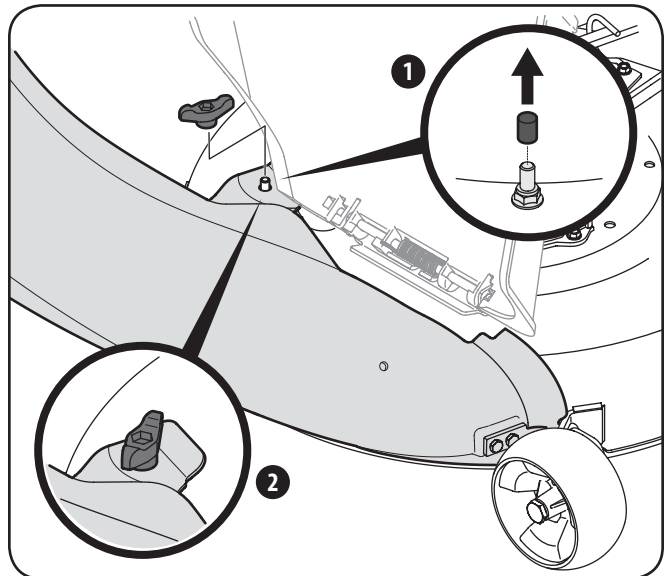

Figure 4-19
Note: Determine if your deck is a newer model, or an older model. Refer to the upper inset of Figure 4-19. If your deck has a mounting stud present, then you have a newer deck model and you would follow the instructions below. If no stud is present, refer to the instructions titled **On Tractors With Older Deck Configurations** later in this section.
2. Secure the chute elbow to the deck using the wing knob 720-04122 from hardware pack 689-00319A. See Figure 4-19.
Note: If present, remove the protective cap off of the mounting stud on the mowing deck as shown in the upper inset of Figure 4-19.